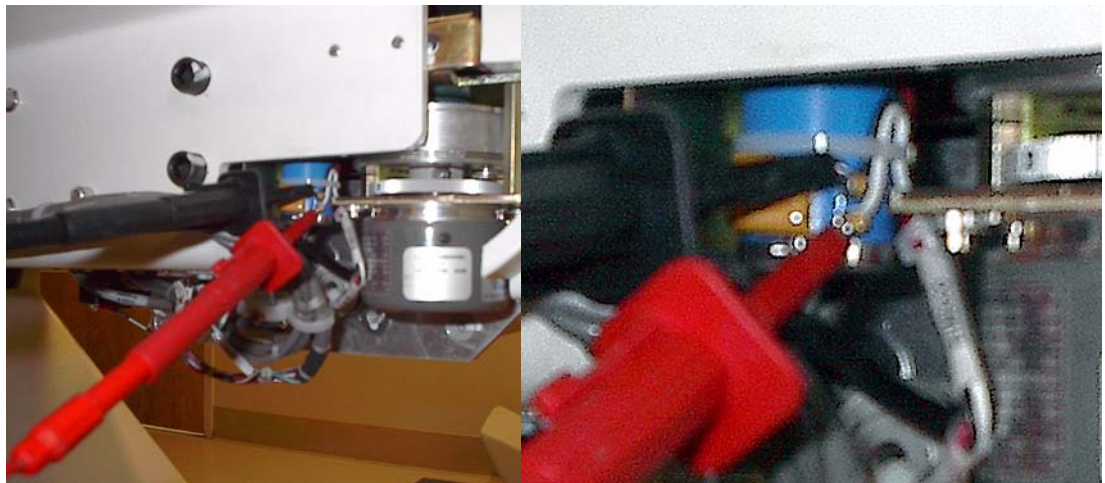

Figure 12-8 Attach DMM to pins 2 and 1 (GND)
- d.) Attach a DMM to terminals #2 and #1 (GND) of the pot (see Figure 12-8) and measure the resistance between these two points. The value should be approximately 5 K Ohms. If it is not, adjust the pot shaft to produce this reading.